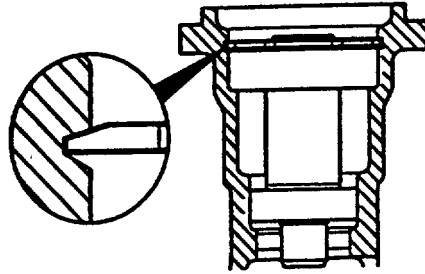

FIGURE 3-4. Shaft Beveled Edge Position.
- g. Use water pump seal driver to install valve seat (9). The valve seat must be even with or no more than 0.020 inch (0.51 mm) below the top of the step in the housing.
- h. Use water pump bearing driver to install the shaft (4). Ensure the beveled edge of the shaft is positioned as shown in FIG. 3-4.